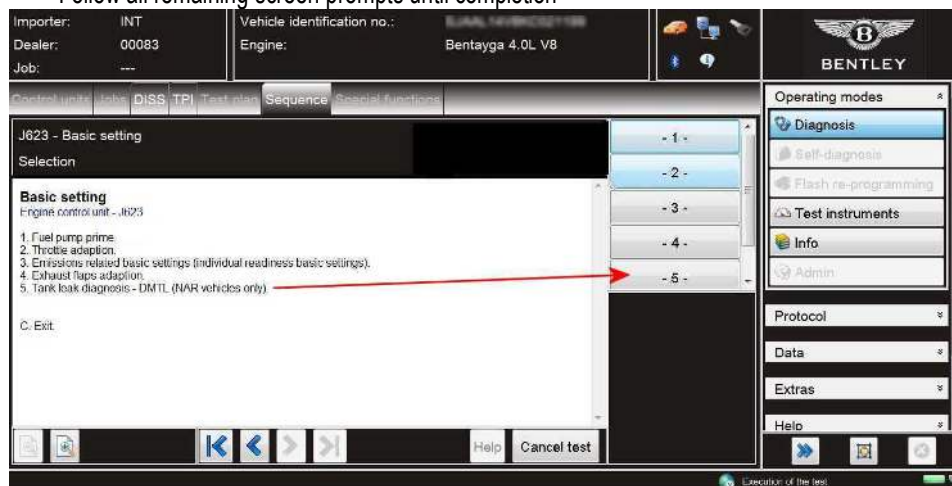

Figure 3
- 5) Referring to Figure 3 - Select -5- Tank leak diagnosis - DMTL (NAR vehicles only) NOTE: The test will also work with South Korea